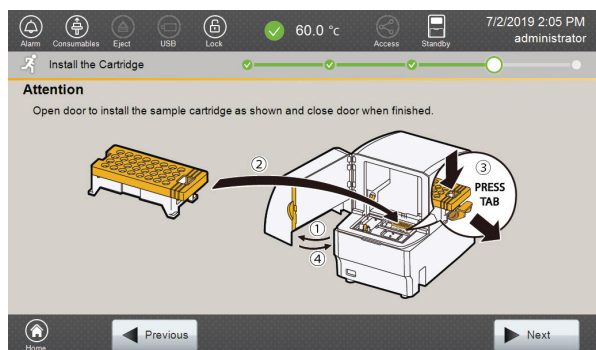

Figure 93. 'Install the Cartridge' screen.
- Open the instrument door, and then place the sample cartridge on the autosampler following the instructions displayed on the 'Install the Cartridge' screen (Figure 93). Press down on the yellow tab on the autosampler deck that locks the sample cartridge in place before placing sample cartridge into position. Release the tab to lock the sample cartridge in place on the autosampler deck.